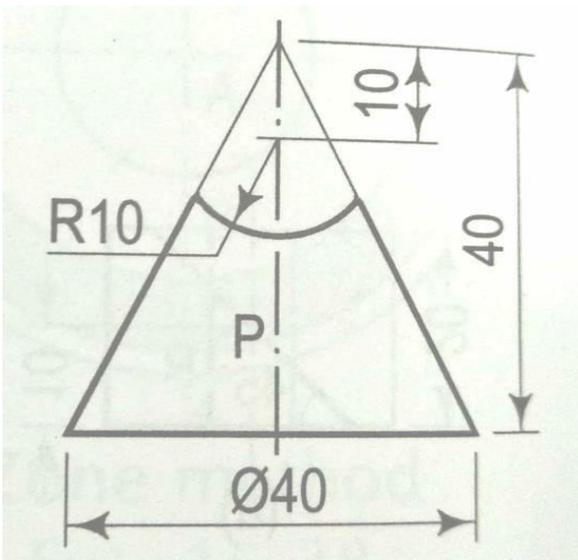

Fig. 3
- (c) Draw the development of the lateral surface of the part P of a cone as shown in figure 3. 07